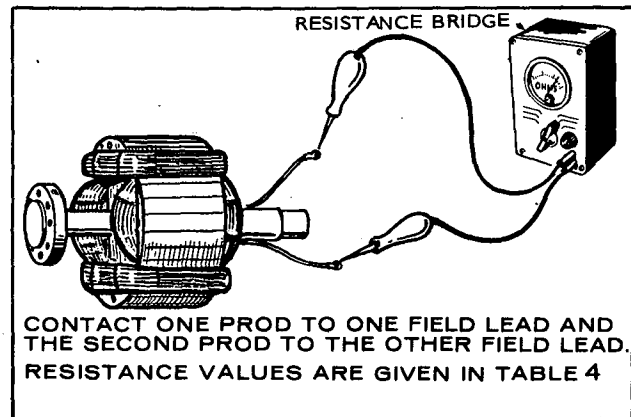

FIGURE 12. MEASURING ROTOR WINDING RESISTANCE
**Testing winding resistances:** Use a Wheatstone or Kelvin bridge for this test. Remove F+ and F- rotor leads from diode heat sink assembly. Connect meter leads between F+ and F-. Resistances should be within the values specified in Table 4 at 68° F (20° C). See Figure 12.